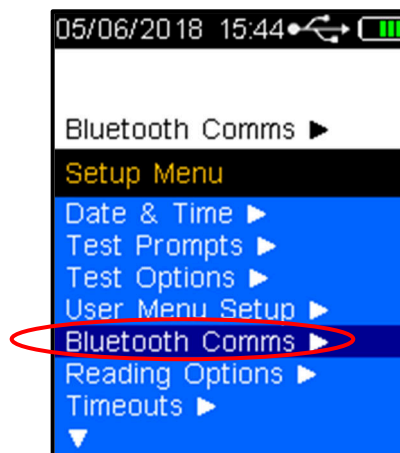

Figure 32 - Bluetooth Comms
- Press the Down button until *Bluetooth Comms* is highlighted (Refer to Figure 32).